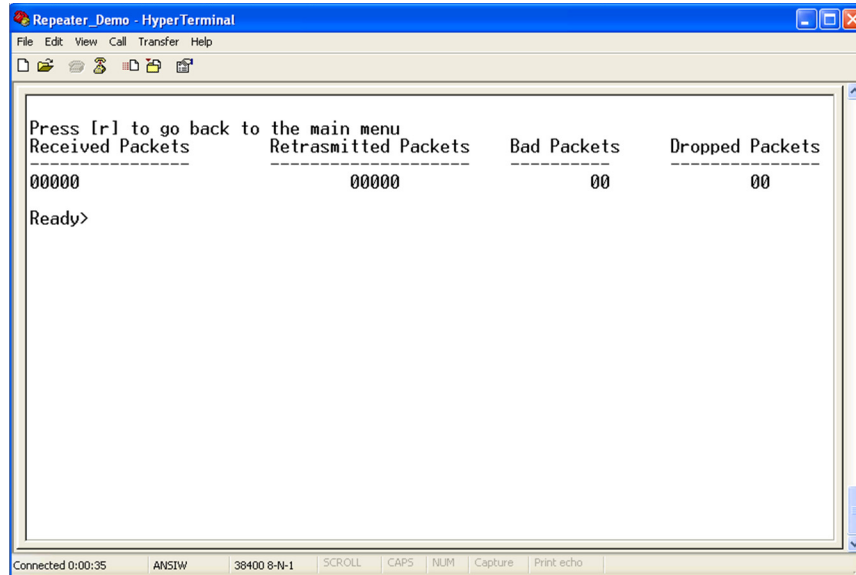

Figure 6-4. Repeater Statistics
2. Type “s”, then Enter, to show repeater statistics as shown in Figure 6-4.